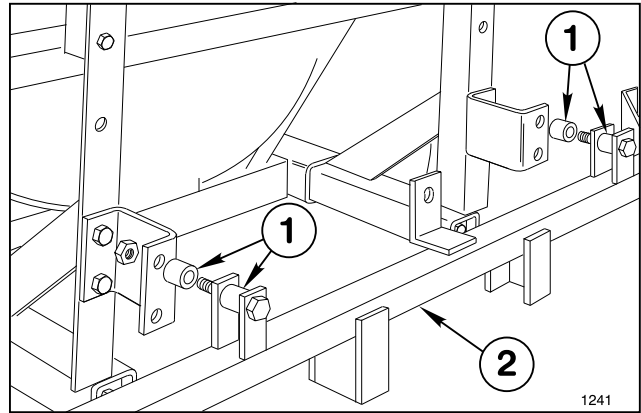
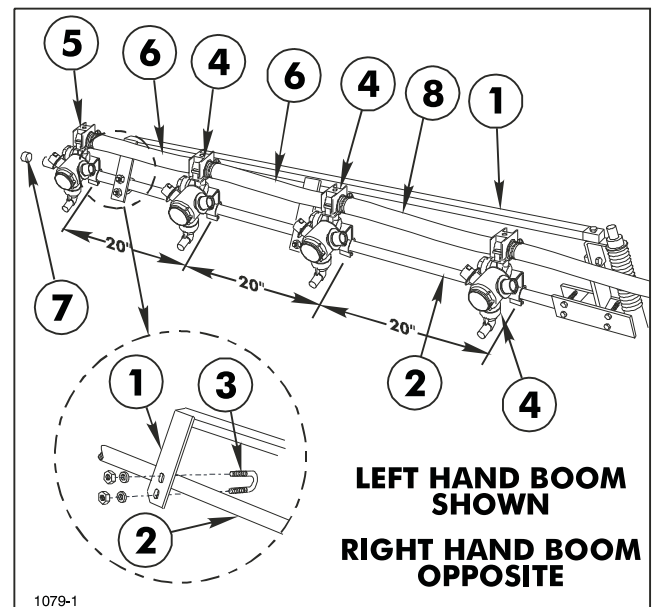

FIG. 12
FIG. 15
6. Position a Spacer Tube between the lugs on each side of the Main Frame tube and between Main Frame and Boom Mounting Brackets. Insert a 1/2" x 3-1/2" cap screw through the lugs and spacers. Secure the Main Frame to the Boom Mounting Brackets with lock nuts. See FIG. 12.
14. Attach the L.H. Boom Support Assembly to the Pivot Assembly, using a 5/16" x 1-1/2" cap screw and lock nut. See FIG. 15 & 16.
15. Secure the two plates of the Boom Support Assembly to the Extension Boom Pipe, using two (2) 1/4" U-bolts, (4) lock nuts and flat washers. See FIG. 15.
18. Attach three Double Barb Turret Bodies and one Single Barb Turret Body with Clamp Assemblies on each Extension Boom Pipe as shown in FIG. 15.
19. Level Nozzles and space 20" (508mm) apart. Connect the Turret Body Assemblies with 3/4" x 19" Jumper Hoses and a 3/4" x 21" Jumper Hose. Secure with hose clamps. See FIG. 15.
**26.** Attach other end of the 1" x 64" Hose attached to Ratchet Valve earlier to the 90° Hose Barb in top of Cross. Secure with (1) 1" hose clamp.
**27.** Attach a 3/4" x 50" hose to L.H. Ball Valve and secure with hose clamp. Route hose under Spacer Tube between Boom Frame and Boom Mount toward L.H. Extension Boom. See FIG. 12 & 16. Mark Hose and cut to proper length. Attach hose to Double Barb Turret on inside of L.H. Extension Boom using hose clamp. See FIG 15. Repeat for R.H. Extension Boom.